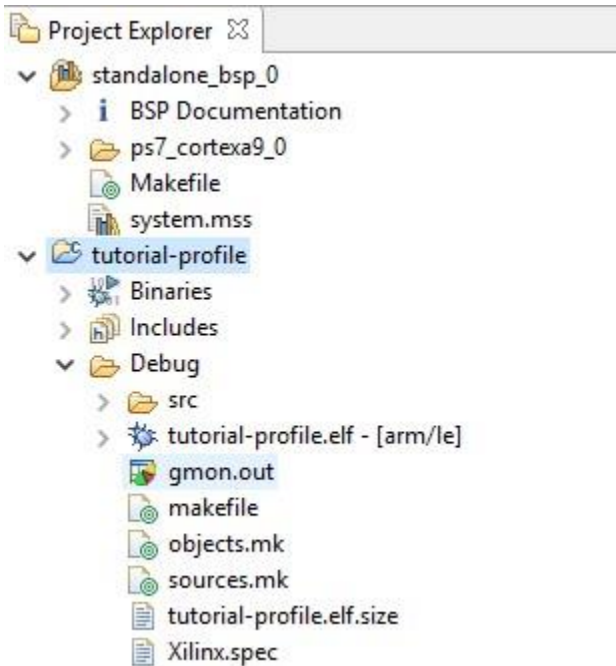

Figure 42: Invoking gprof on gmon.out.
1. Expand the **Debug** folder under the tutorial-profile project in the Project Explorer view, and doubleclick on the **gmon.out** entry (Figure 42).